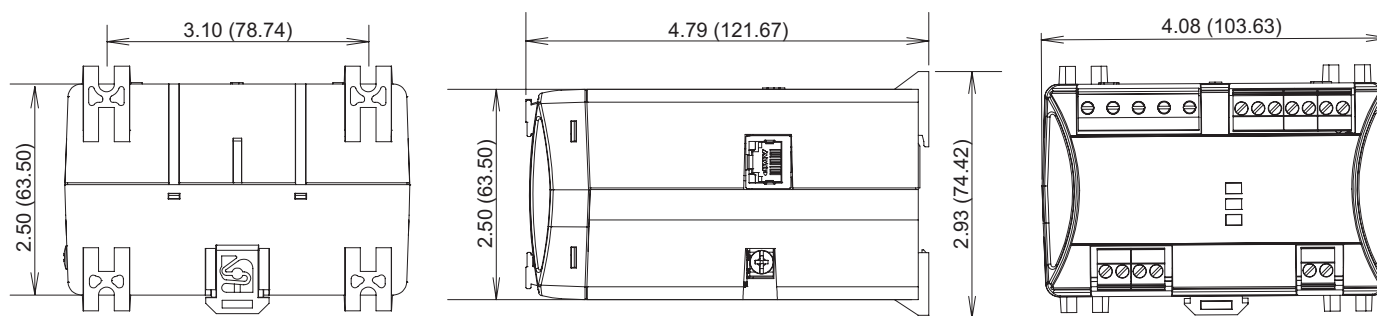

Figure 9
2. The MP8000 can be surface, DIN-rail or panel mounted in a sheltered enclosure environment that does not exceed the temperature and humidity ratings for the relay. (See Figure 9 for dimensions)